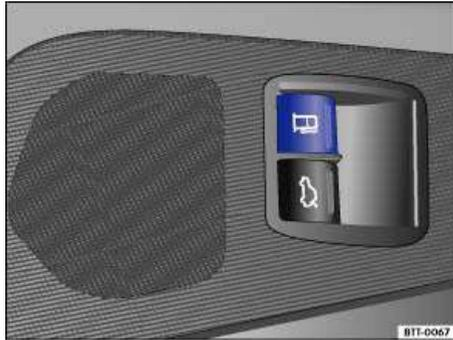

Fig. 161 In driver door: Release switch for fuel filler flap.
- Pull the release switch  in the driver door upwards ⇒ fig. 161.